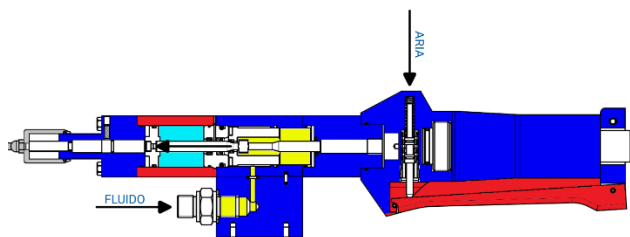

Figure 03 – Resting phase
- The fluid is ready to exit into its special chamber (Figure 03);
- The fluidic chamber is refilled so that it is ready for another dosage (Figure 03)